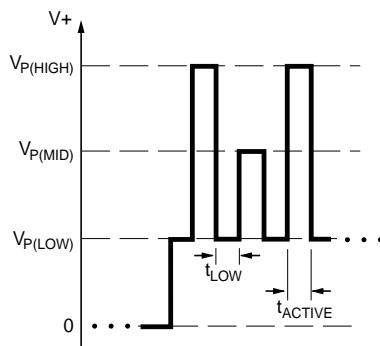

Figure 4. Parameter selection pulse train. This shows the sequence for selecting the register corresponding to key 1, indicated by a single  $V_{PM}$  pulse.
Each programmable parameter can be accessed through a specific register. To select a register, a sequence of voltage pulses consisting of a  $V_{PH}$  pulse, a series of  $V_{PM}$  pulses, and a  $V_{PH}$  pulse (with no  $V_{CC}$  supply interruptions) must be applied serially to the  $V_{OUT}$  pin. The number of  $V_{PM}$  pulses is called the *key*, and uniquely identifies each register. The pulse train used for selection of the first register, key 1, is shown in figure 4.